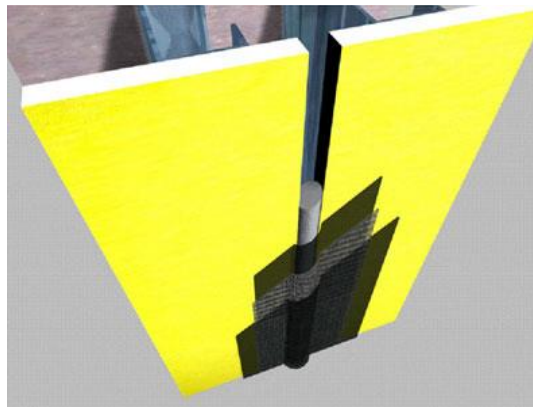

Figure 5
- .3 Using a brush or 19 mm (3/4 in) nap roller, apply a liberal coat of AquaFlash liquid material to the backer rod and adjacent substrate surface to the width of the AquaFlash Mesh - Figure 5.